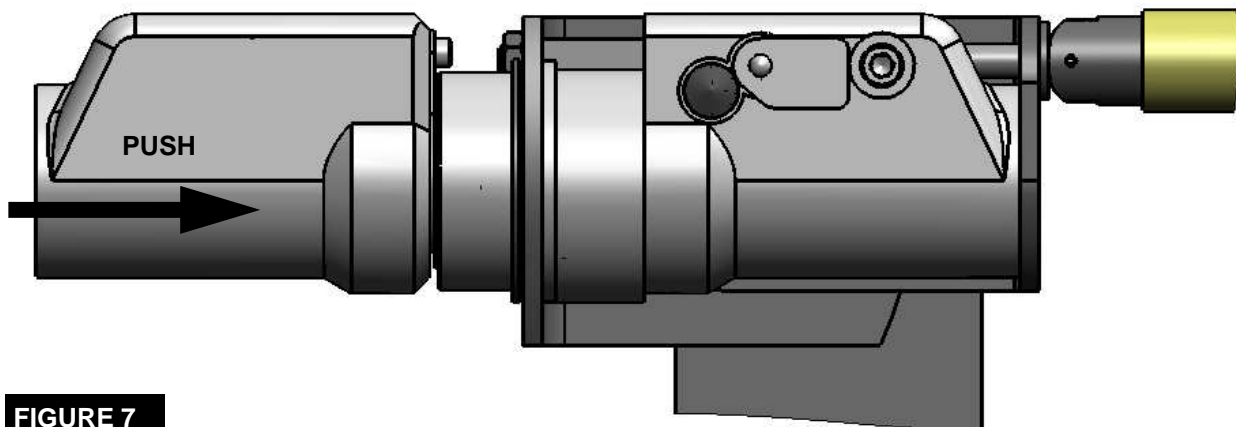

FIGURE 7
5. **Make sure the Bleed Valve is open**, then insert the Male Plug into the Female Socket as far as possible using only hand pressure. As shown in Figure 7.